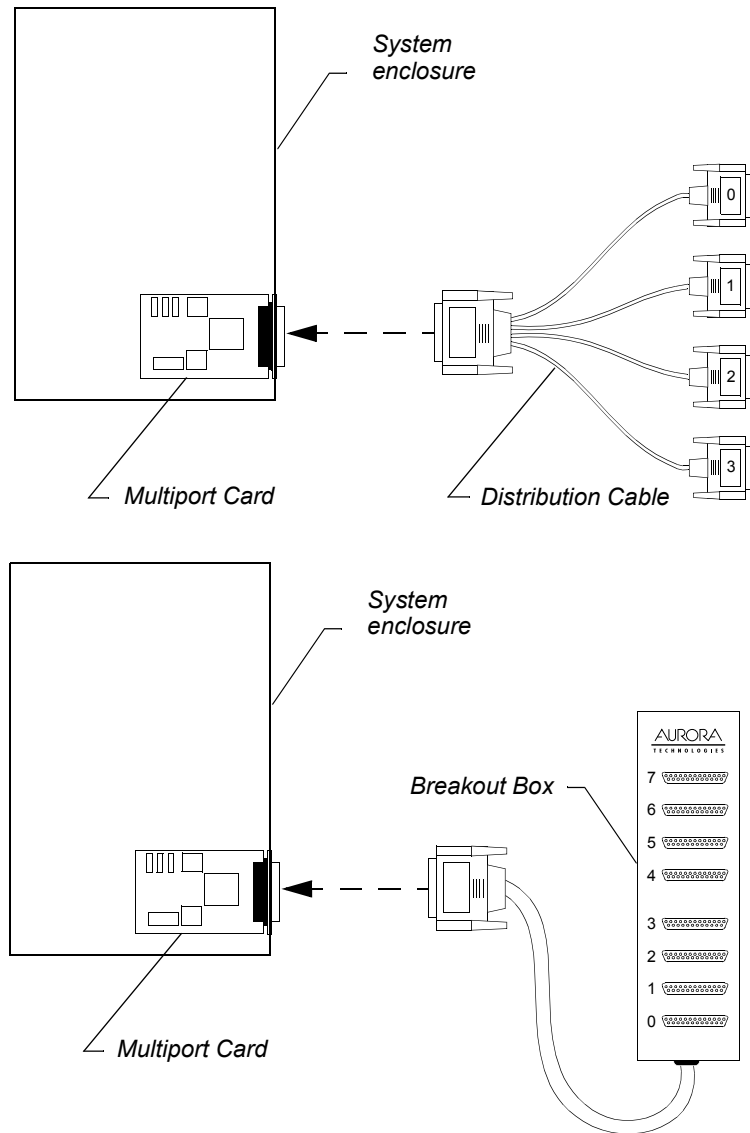

FIGURE 1. Connecting the distribution cable (or breakout box) to the Multiport card
3. Connect the distribution cable or breakout box to the multiport card, as shown in Figure 1.